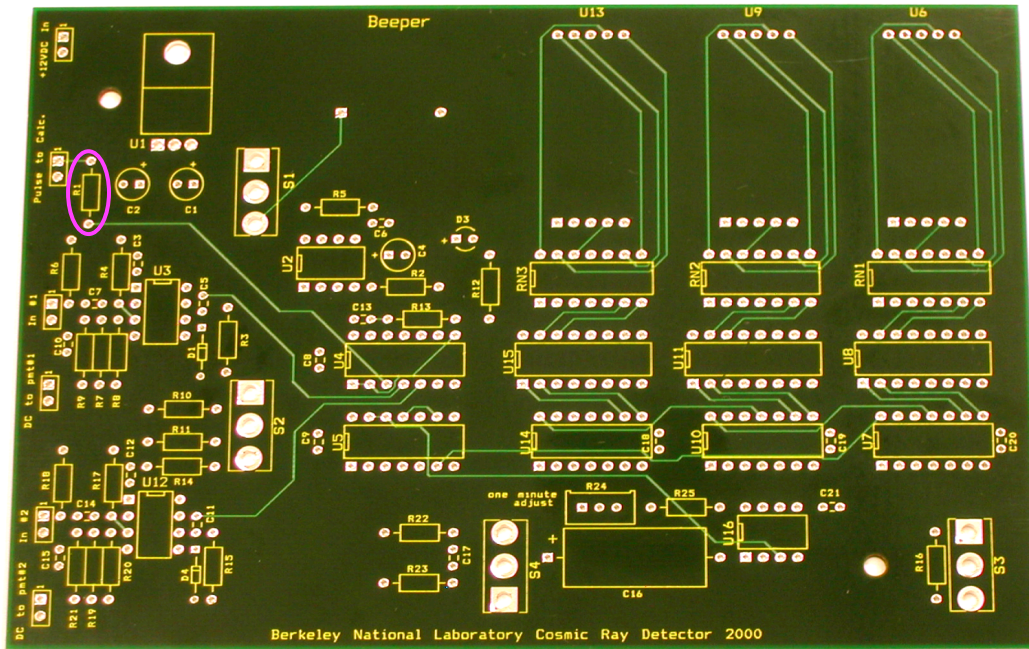

Figure 24: Circuit board with R1 highlighted.
1. **Locate R1 on the circuit board and insert the 51 Ω resistor (Item 1) into it (Figure 24).** The resistor should sit on the label side of the board. Be sure to bend the wires slightly on the other side such that the resistor will hold in place. See Appendix B for color codes on resistors.